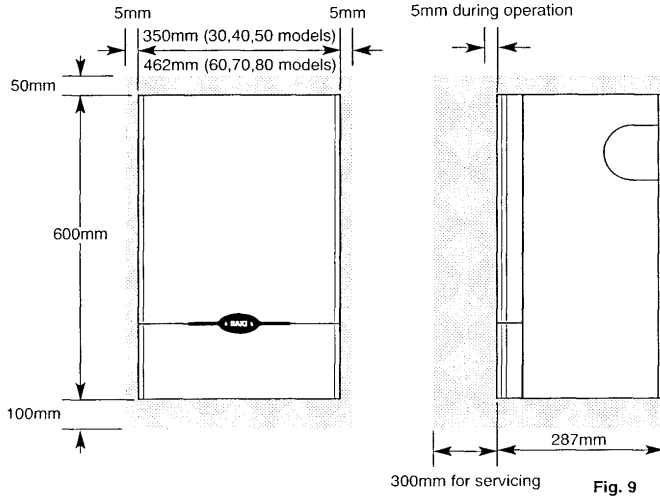

Fig. 9
**4.2 Minimum Clearances (Fig. 9)**